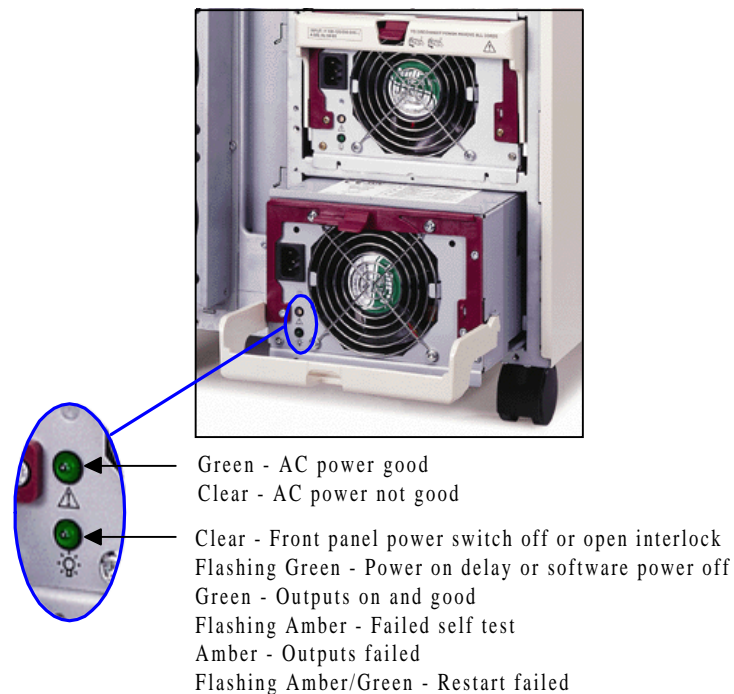

Figure 9: Power supply LED status indicators.
- *LED Standby Controls* - The microcontroller also drives two status light-emitting diodes (LEDs) on the back of the power supply that indicate AC and DC power status, as shown in Figure 9. This gives the user vital status information at a glance.